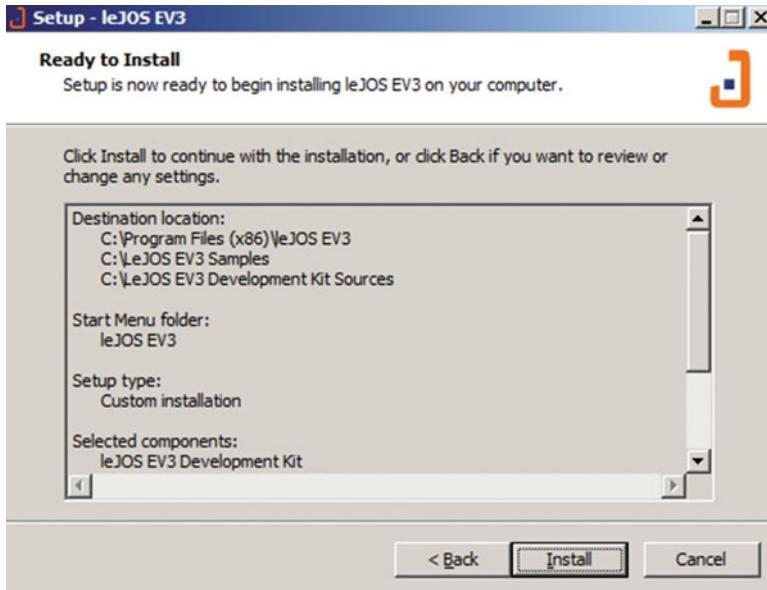

Figure 1-14. General settings for the leJOS installation
7. Choose to install the Sample Projects and the Development Kit into root folder C, click *Next*, and then you can use the default setting to create a Start Menu folder called leJOS EV3. After that, click *Next* and you will see the screen shown in Figure 1-14.